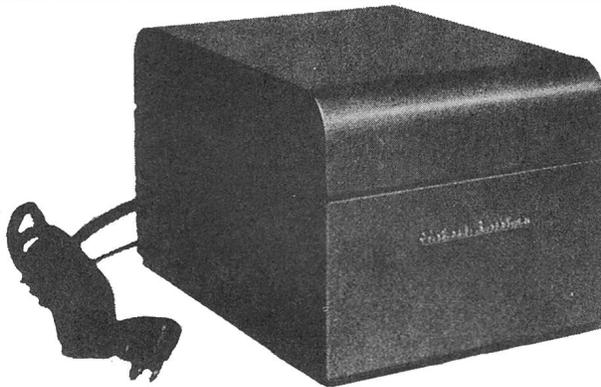

FIG. 1
- 1.04 The set is housed in a gray hammer-tone steel cabinet 7-3/8 inches high, by 8-1/8 inches wide and 12 inches deep. See Figs. 1 & 2.